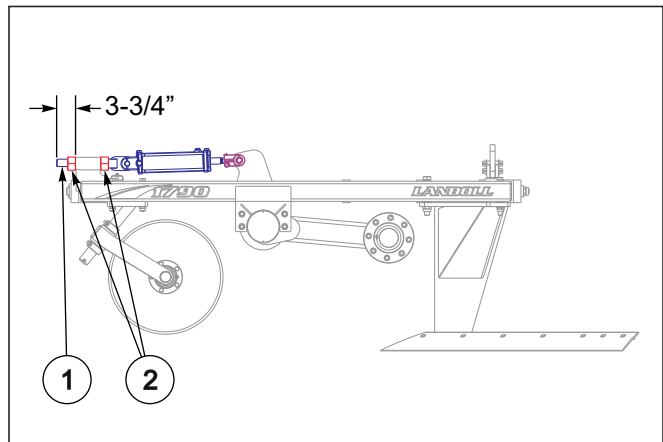

Figure 4-15: Cylinder Level Adjustment
4. The initial starting distance from threaded end of cylinder anchor to front side of tube should be 3-3/4" (**See Figure 4-15**). If cylinder anchor (1) needs adjusted, loosen one of the 1-3/4" hex nut (2), turn the other 1-3/4" hex nut until desired distance is set. Tighten both 1-3/4" hex nuts to secure the cylinder anchor. Adjust both center cylinders equally by turning one cylinder anchor in and the other out.
10. If adjustments need to be made, adjust the wing to match the center frame **See Figure 4-15.** On the wing cylinder anchor, loosen the one of the 1-3/4" hex nut (2), turn the other 1-3/4" hex nut until desired distance is set. Tighten both 1-3/4" hex nuts to secure the cylinder anchor.